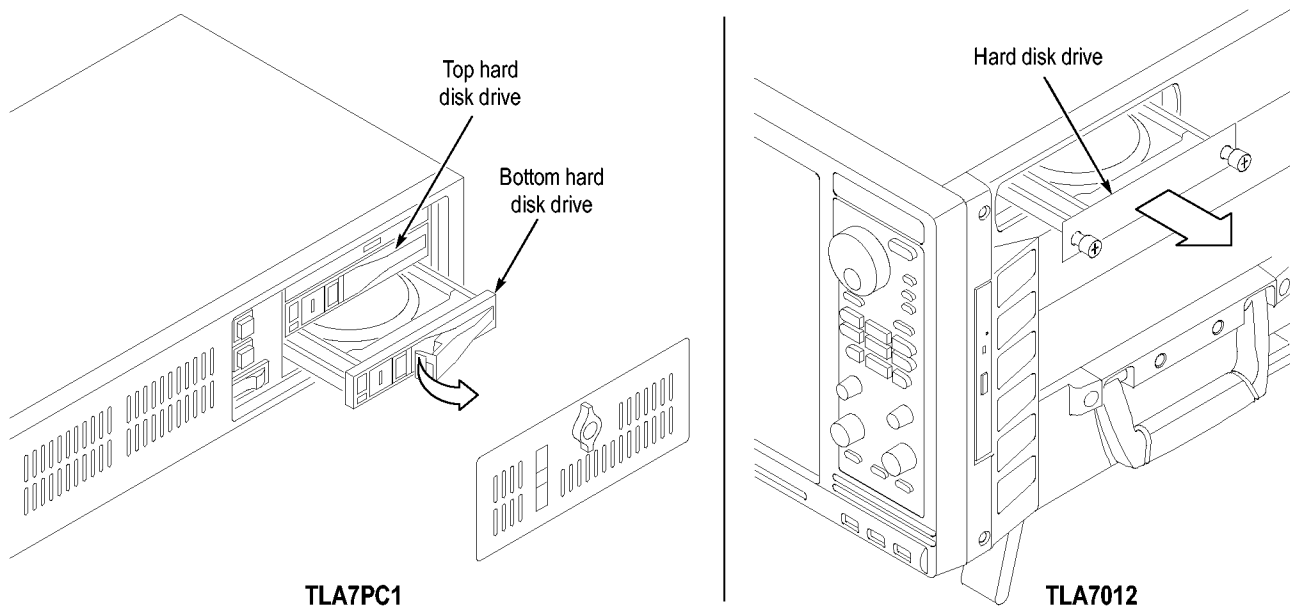

Figure 47: Accessing the replaceable hard disk drives
3. Pull out the lever (TLA7PC1), or unscrew the locking thumbscrews (TLA7012). (See Figure 47.)